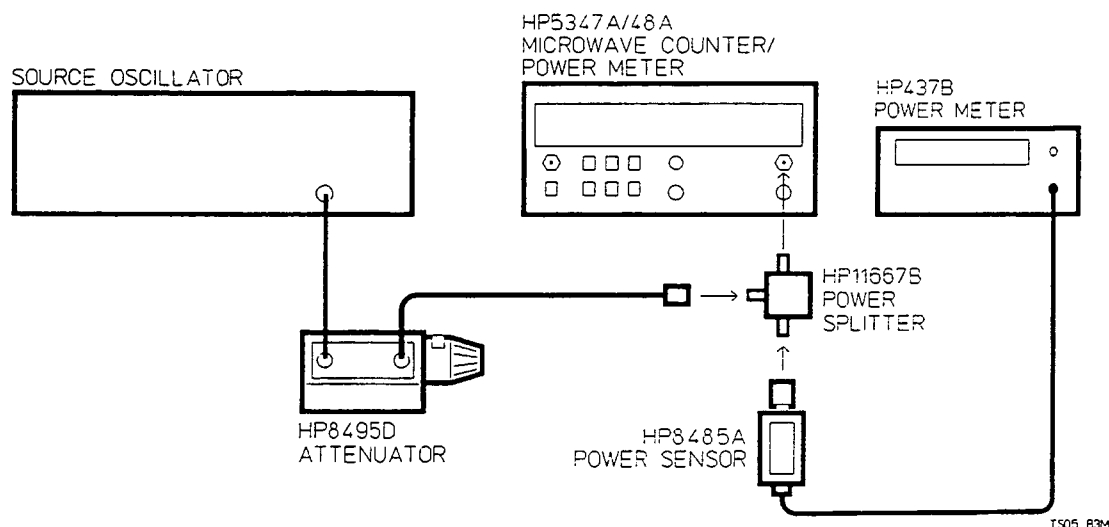
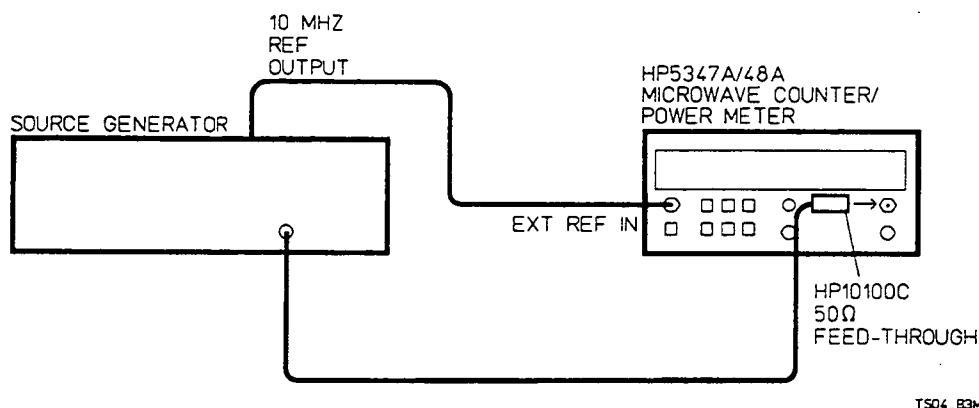

Figure 4-1. INPUT 2, 50 MHz-525 MHz Verification Test Setup
Figure 4-2. INPUT 2, 10 MHz-50 MHz Verification Test Setup
Description: This check is in two parts to check both the high frequency measuring capability of the 50 Ω input impedance and the low frequency measuring capability of the 1 M Ω input impedance of INPUT 2. In Part I, the HP 5347A/48A is set to the 10 MHz-525 MHz range, 50 Ω impedance, and a 25 mV rms (-19.3 dBm) signal is applied to INPUT 2. The source is set to selected frequencies and the HP 5347A/48A is checked for proper counting. Next, the HP 5347A/48A's 1 M Ω impedance for the lower frequency range is checked. Since the same test setup in *Figure 4-1* with the addition of a 50 Ω feedthrough is used to perform the 80 MHz check, the 80 MHz check is performed before the 10 Hz-50 MHz check. A 25 mV rms (-19.3 dBm) 80 MHz signal is applied to INPUT 2 through a 50 Ω feedthrough, and the HP 5347A/48A is checked for proper counting. In Part II, the test setup is changed to *Figure 4-2* to test the 10 Hz-50 MHz range.
1. Connect the equipment as shown in *Figure 4-1*.
The 1 M Ω impedance of INPUT 2 is checked with an 80 MHz input signal before it is checked with signals from 10 Hz through 50 MHz. This is done for convenience since to perform the 80 MHz check you need to use the test setup in Figure 4-1 with the addition of the 50 Ω feedthrough between the power splitter and INPUT 2 connector.
1. Using the test setup in Figure 4-1, insert a 50 Ω feedthrough (HP 10100C) between the HP 1667B power splitter and INPUT 2 of the HP 5347A/48A.
1. Connect the equipment as shown in *Figure 4-2*.